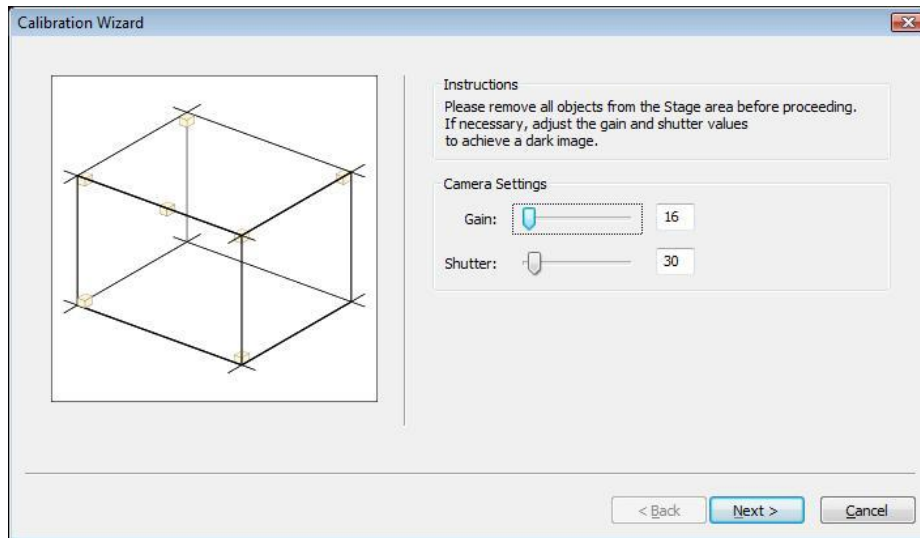

Figure 18 - Camera Calibration 1 – Choose Lighting
Step 1 – Lighting Settings: First you will choose a lighting setting which makes the cameras practically black but the wand will show up as a white dot (Figure 18 - Camera Calibration 1 – Choose Lighting). The default values should be fine. When the 'Next' button is pressed the system captures a background image. It is important that when you click 'next', the wand or any moving/changing light is not visible by any camera. If it is, then calibration may not work correctly.